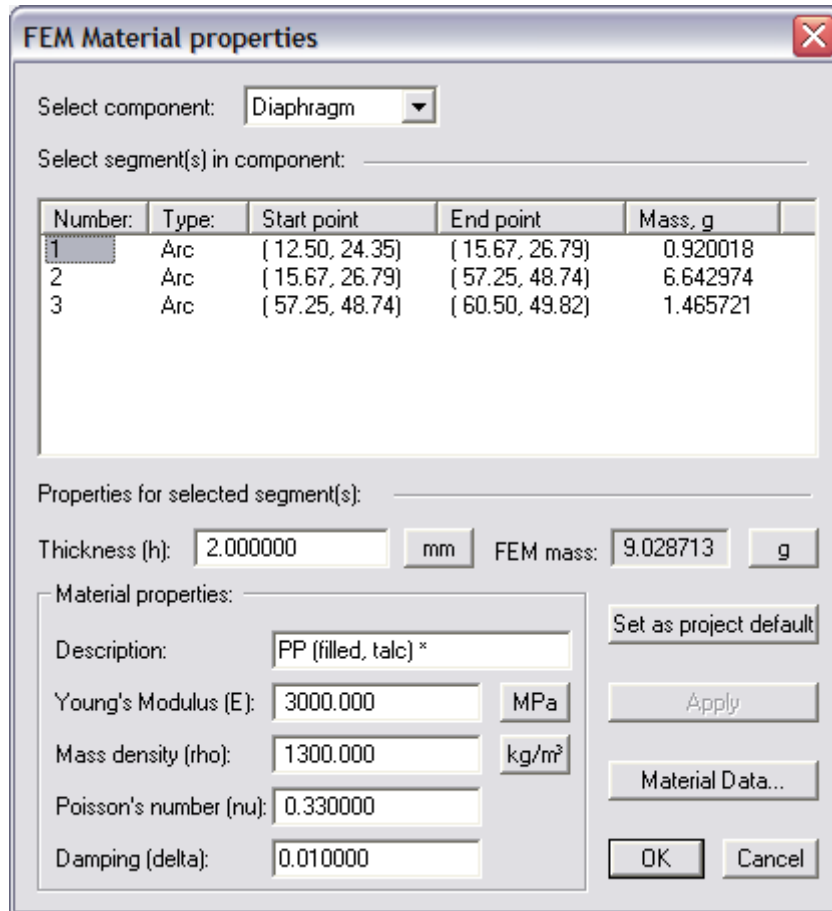

Figure 37 - Part of the cone is made thicker to account for the glue on the voice coil
This is done in Figure 37, where the first cone segment (1) is specified with 2mm thickness. We may later change the stiffness by adjusting Young's Modulus